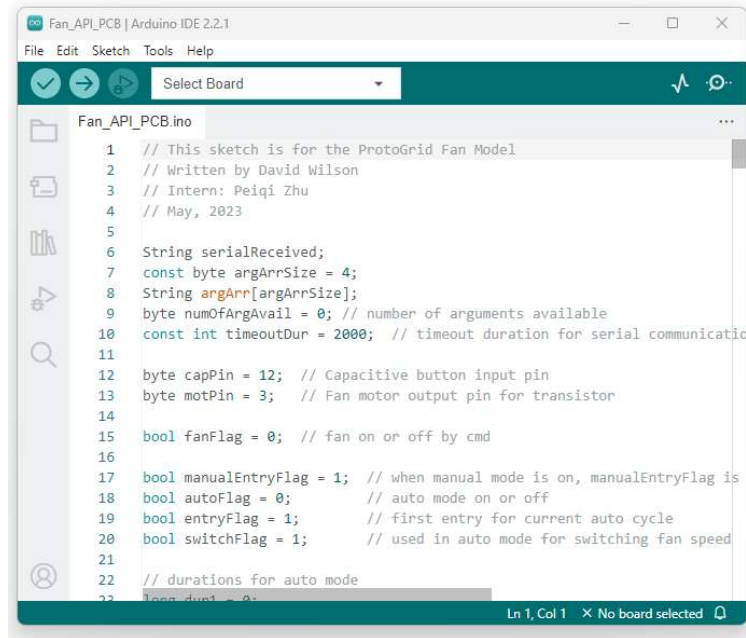

Figure 1.4 Arduino IDE with Fan Module code
- Open the *Fan_API_PCB.ino* file. This will open the Arduino IDE with the Fan Module code as shown in *Figure 1.4*.